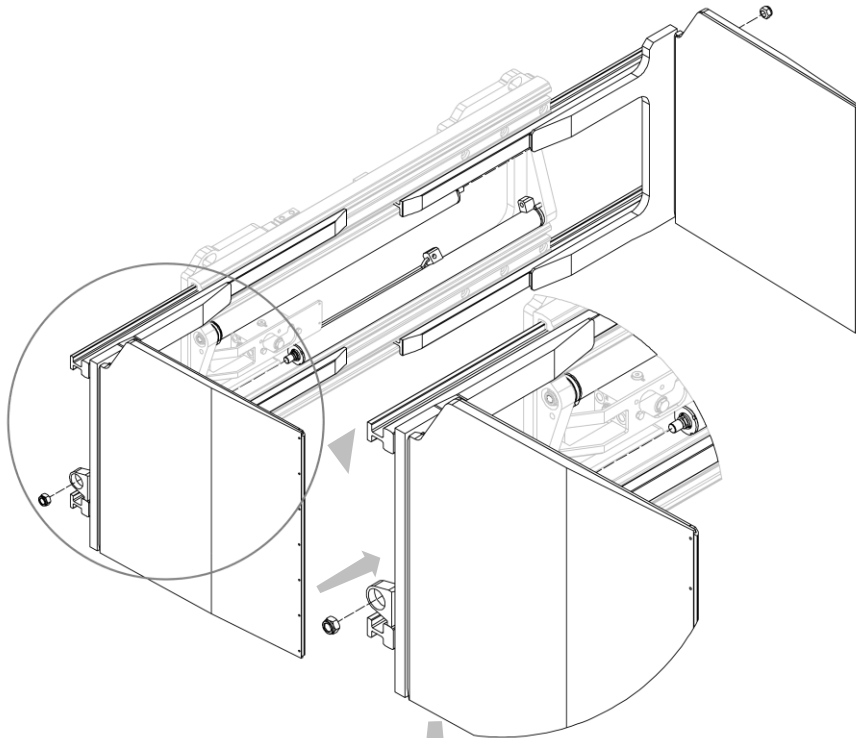
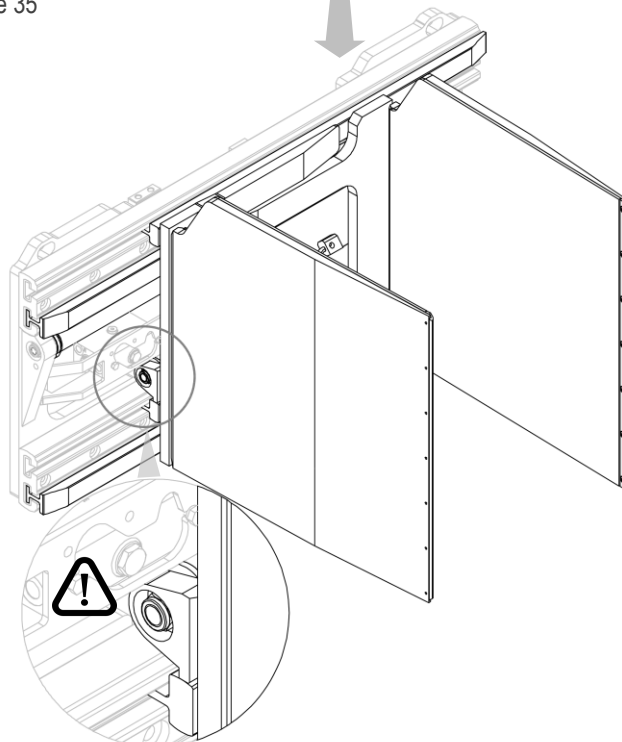

Figure 35
Figure 36
2. Insert the fork assembly, one at a time, into their appropriate housings and tighten the nuts that secure them to the cylinders (see *Figure 35* and *Figure 36*).